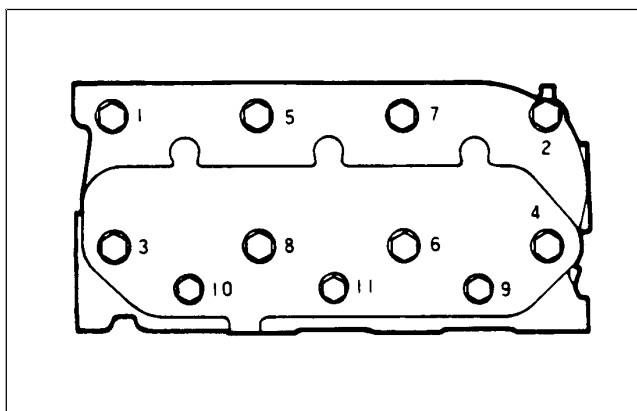

Figure 60
9. Loosen the cylinder head bolts. Use the sequence shown in Figure 60. Remove the cylinder head assembly including the intake and exhaust manifolds.